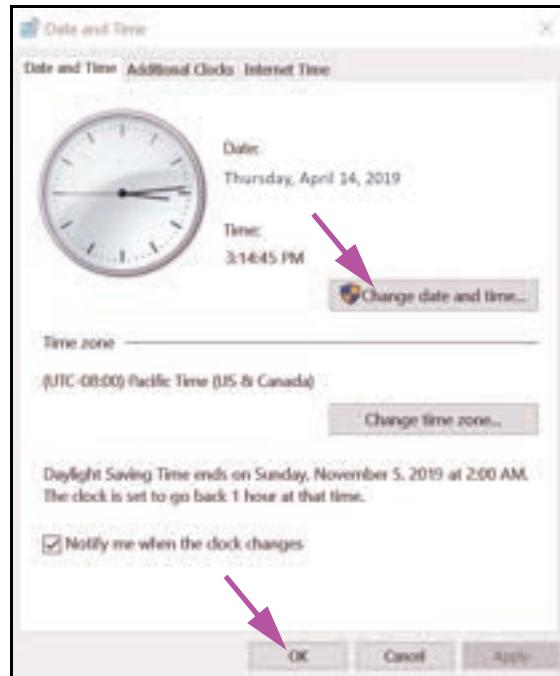

Figure 2-34. Date and Time Properties Dialog Box
1. Click Control Panel > Date and Time. The Date and Time dialog box appears. See Figure 2-34.
4. Click **OK** to return to the Date and Time dialog box. See Figure 2-34.